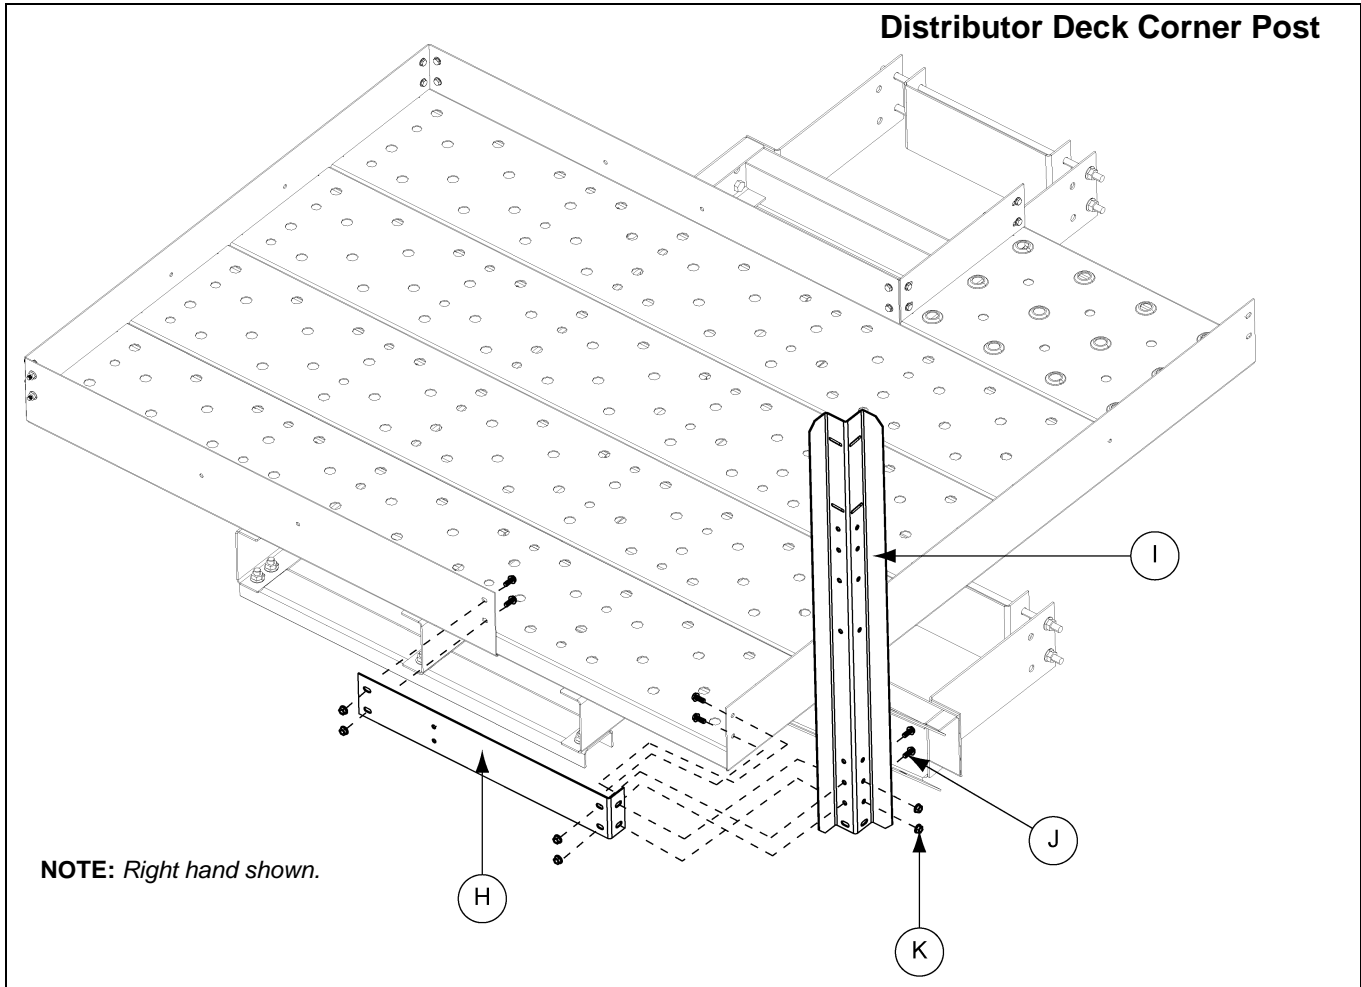

Figure 12G Distributor Platform Corner Post
4. Align flange of end toe board along the bottom of decking. Connect end toe board to decking using 1/2" x 1" bolts and nuts (S-8506) (D). *(See Figure 12G on Page 104.)*
5. Install the corner "W" post at the same time as the toe board filler plate (GSB30142X) (H). Attach toe board filler plate (GSB30142X) (H) to the decking toe boards located across from the entrance. Attach the flat end first using two (2) 5/16" x 3/4" flange bolts (S-6606) (J) and nuts (S-3611) (K). Then line up the holes of the toe board filler plate (GSB30142X) (H) with the decking toe board, while also aligning the holes of the "W" post on the corner. Fasten all three (3) together with four (4) 5/16" x 3/4" flange bolts (S-6606) (J) and nuts (S-3611) (K). *(See Figure 12G on Page 104.)*